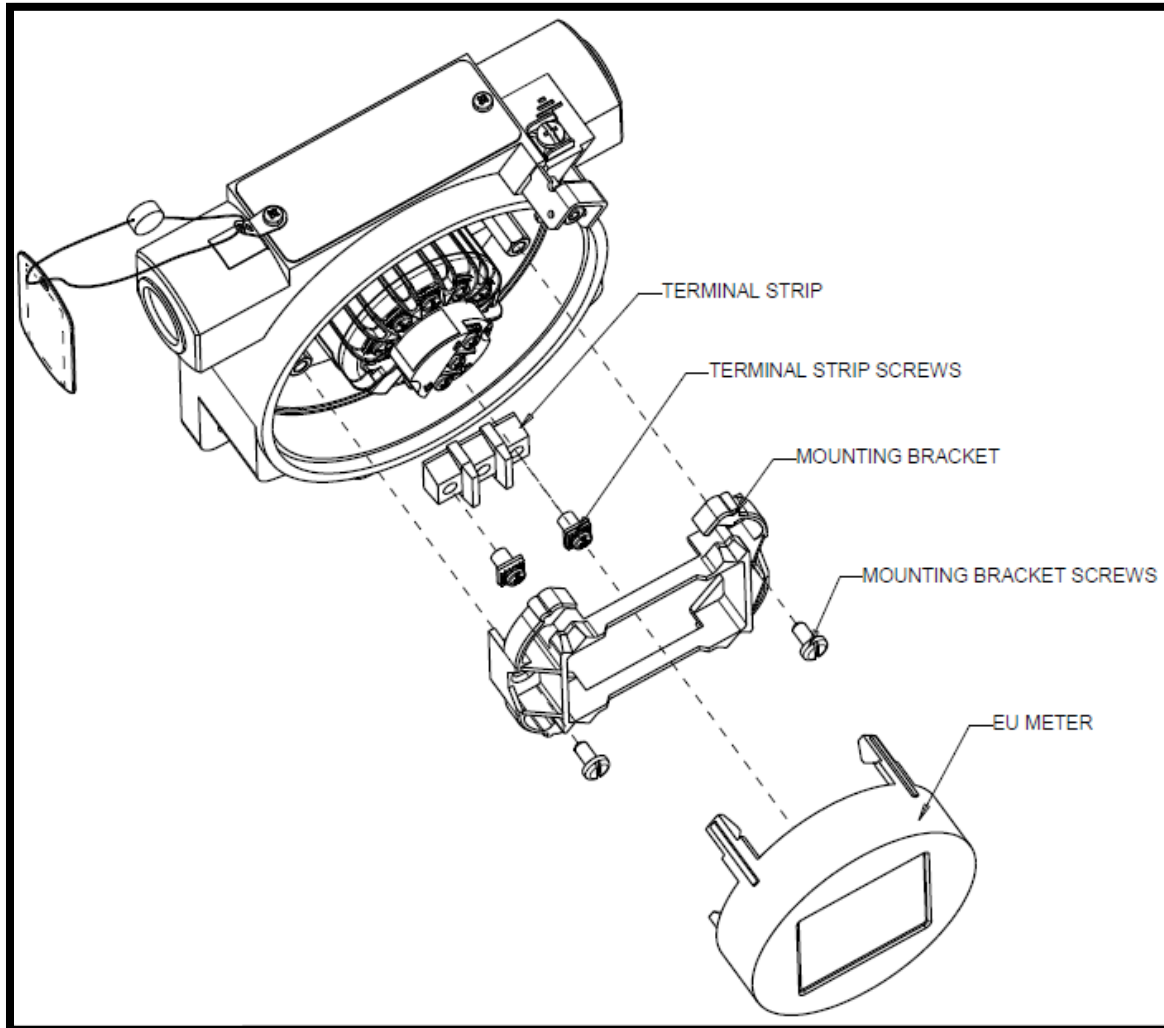
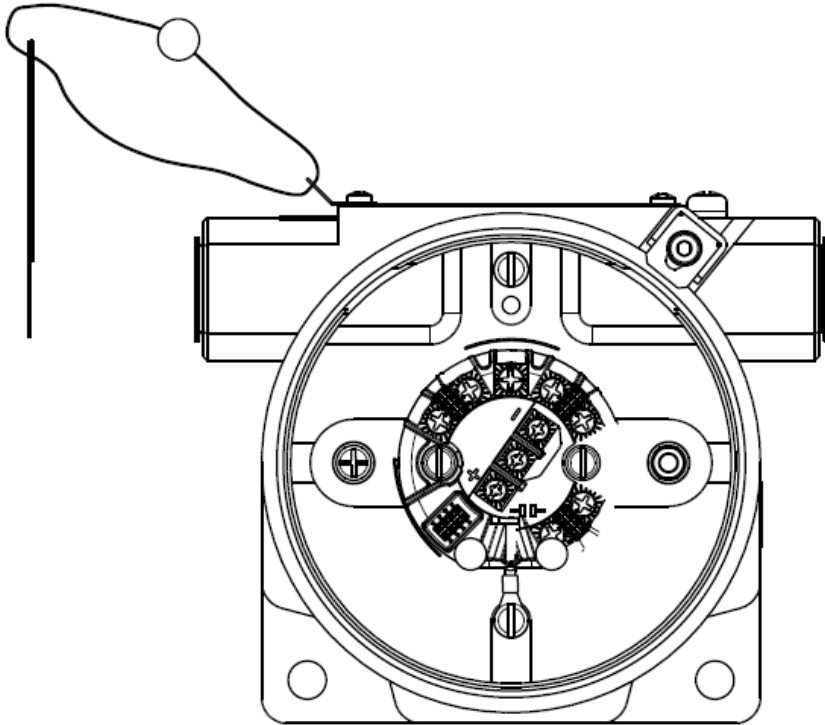

Figure 1: Parts to be removed
Figure 2: After the removal of EU Meter assembly from the Housing
- a. Remove the parts of EU meter assembly (EU Meter, mounting bracket, mounting bracket screws, terminal strip, terminal strip screws) as shown in Figure 1 and Figure 2.